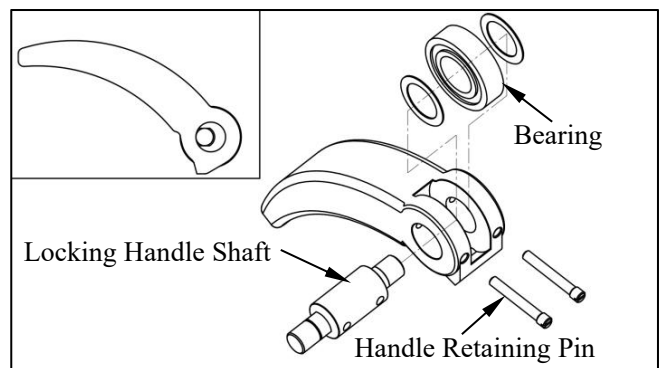

Fig. 39
9. As shown in Fig. 39, use a flathead screwdriver to remove the two handle retaining pins, then pull out the locking handle shaft and remove the bearing.